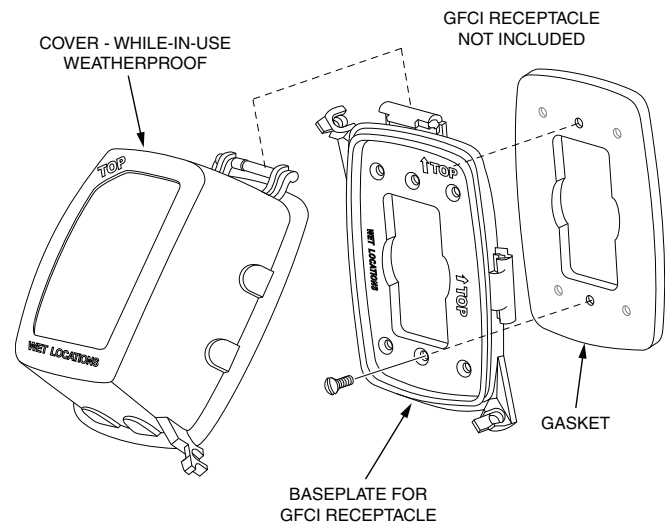

Fig. 29 — Weatherproof Cover Installation
4. Mount the weatherproof cover to the backing plate as shown in Fig. 29.